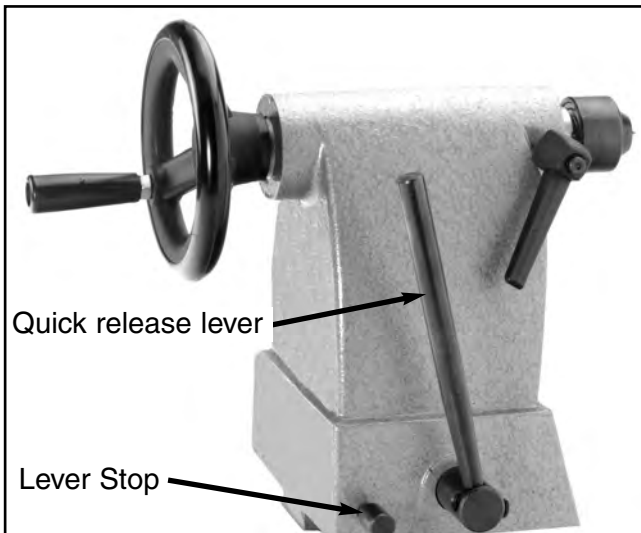

Figure 17. Tailstock assembly.
1. Loosen the quick release lever and move the tailstock to the desired position. **Figure 17.**